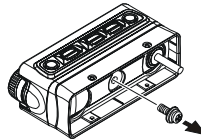

Figure 3
3. Remove the screw affixing the Straight Sub Panel, and then remove the Straight Sub Panel from the Front Panel (Figure 3).